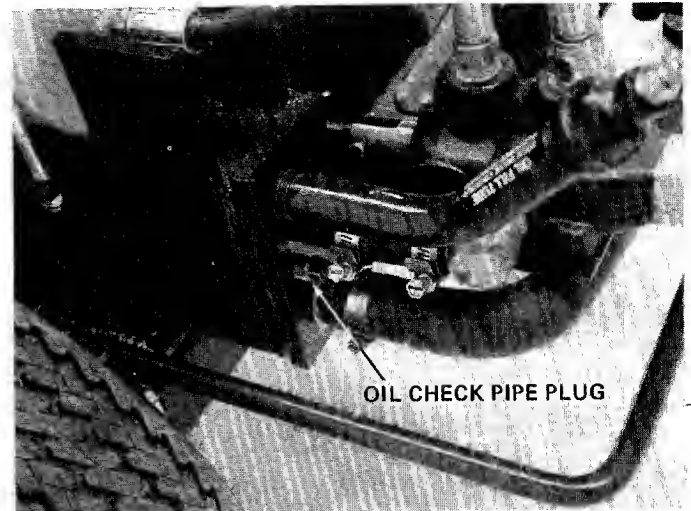

FIGURE 15
Check oil in log splitter reservoir before every use. See figure 15.
2. Remove check pipe plug in rear of beam. See figure 15. If oil starts to come out of check pipe plug hole, oil level is correct. IF IT DOES NOT, add oil to breather tube (see figure 7) until it starts out.